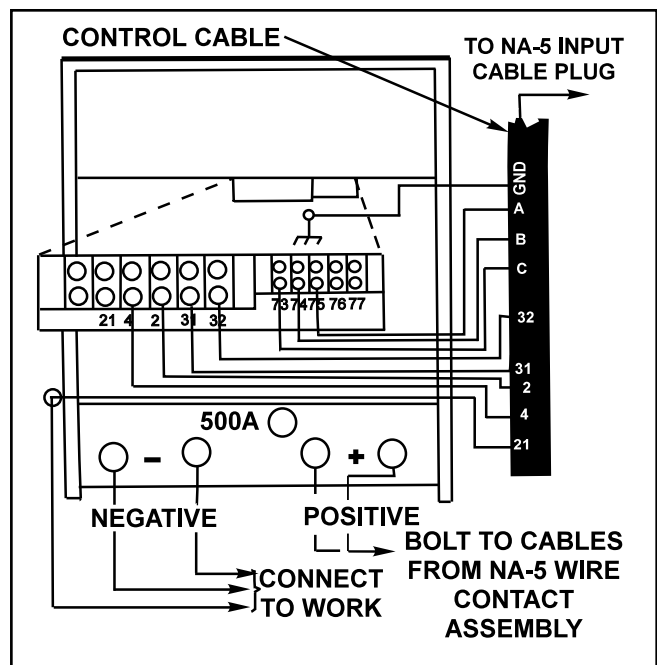

FIGURE C.2 - NA-5 Wire Feeder Connection to the IDEALARC DC-1000
3. Connect the wire feeder control cable leads to the IDEALARC DC-1000 terminal strip as shown in Figure C.2.
7. Connect the welding cables as shown in Figure C.2.
NOTE: The connection diagram shown in Figure C.2 shows the electrode connected for positive polarity. To change polarity: